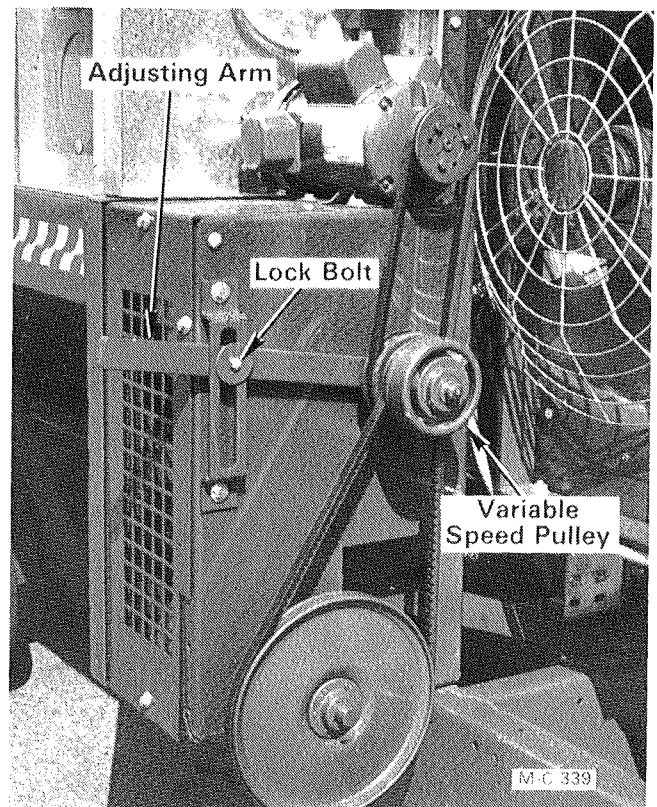
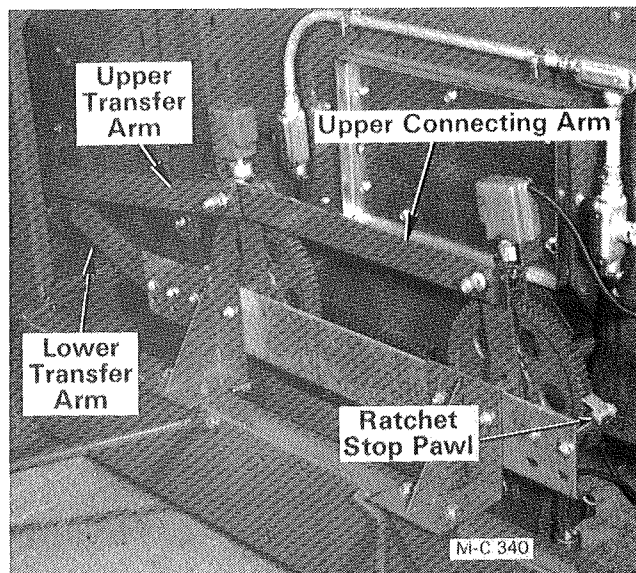

Figure 19
Figure 20
CAUTION: The guards were removed in Figure 19 to provide a clear illustration. Do not operate the dryer without guards in place and secure.
1. The variable speed pulley, Figure 19 controls the speed of the unloading auger and the rate of speed that the grain metering roll ratchet arms move back and forth, see Figure 20.
unloading rate, see Figure 19. Tighten the locking bolt after changing the adjustment. **Adjust the variable speed pulley only when the dryer is operating.**
CAUTION: The guards were removed in Figure 20 and 21 to provide clear illustrations. Do not operate the dryer without guards in place and secure.
4. The ratchet arms are connected together with the connecting arms and the right ratchet arms are connected to the eccentric drive sprocket with the transfer arms, see Figure 20.
5. The transfer arms, Figure 20 control the length of the ratchet arm stroke.
7. The ratchet pawls must engage the same number of teeth on each ratchet wheel so that the metering rolls unload at the same rate. If they do not, move the ratchet stop pawl(s), shown in Figure 20, closer to the ratchet wheel(s) to prevent ratchet wheel roll back.